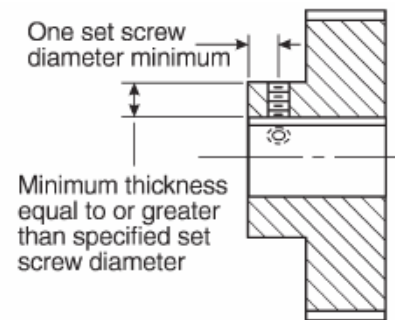

Figure 1 — Minimum Hub Thickness And Set Screw Placement Guidelines
2. The maximum bore diameter specified by the manufacturer for each sprocket size should NOT be exceeded, or a keyway used which reduces the hub thickness to less than its minimum allowable value. See the Sprocket Specification Tables for a listing of recommended bore ranges by sprocket size. Bores exceeding the maximum recommended value for a particular sprocket size can adversely affect the structural integrity, thereby reducing their load-carrying capability. The minimum metal thickness between the keyway and hub O.D. should be no less than the set screw diameter specified for the corresponding sprocket size. See Figure 1 below.
- Each set screw should be placed axially—a minimum of one set screw diameter from the end of the sprocket hub extension. See Figure 1. For recommended set screw tightening torque values see Table